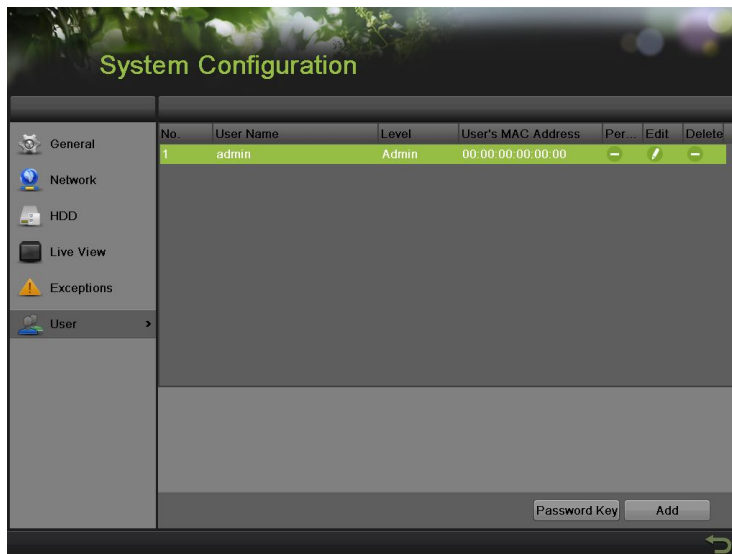

Figure 90 User Settings Menu
You can change the default password by going to Menu > System Configuration > User, as shown in Figure 90.
1. Enter the User menu, shown in Figure 90 by going to Menu > System Configuration > User.
On the main menu (see in Figure 90), information about users are show on the lower left corner,